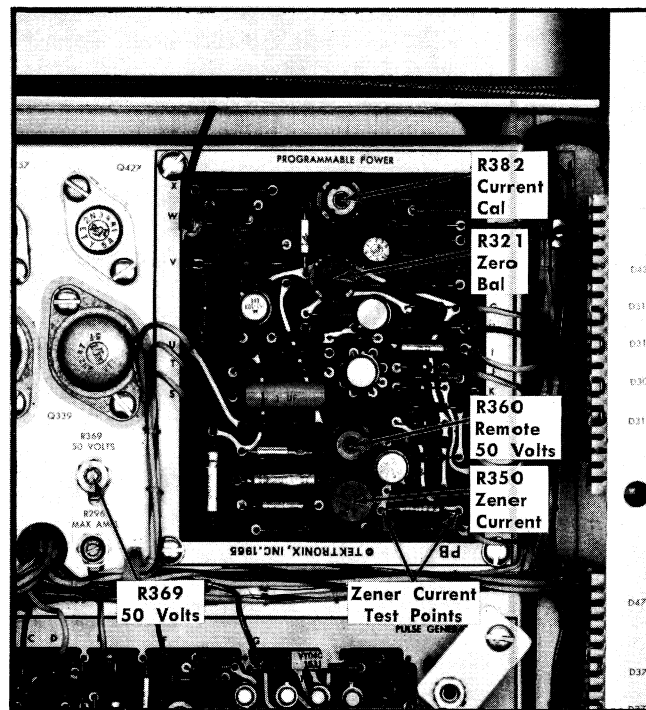

Fig. 6-22. Location of Programmable Power Supply test points and adjustments (Programmable Power board).
- Connect the dc voltmeter to the Zener Current test points (see Fig. 6-22).
- Adjust—Zener Current adjustment, R350 (see Fig. 6-22) for exactly 8.4 volts.
- Adjust—50 Volts adjustment, R369 (see Fig. 6-22), for +50 volts.
- Adjust—Zero Bal adjustment, R321 (see Fig. 6-22), for zero volts.
- f. Adjust—Remote 50 Volts adjustment, R360 (see Fig. 6-22), for +50 volts.
- d. Adjust—Current Cal adjustment, R382 (see Fig. 6-22), for 300 milliams.